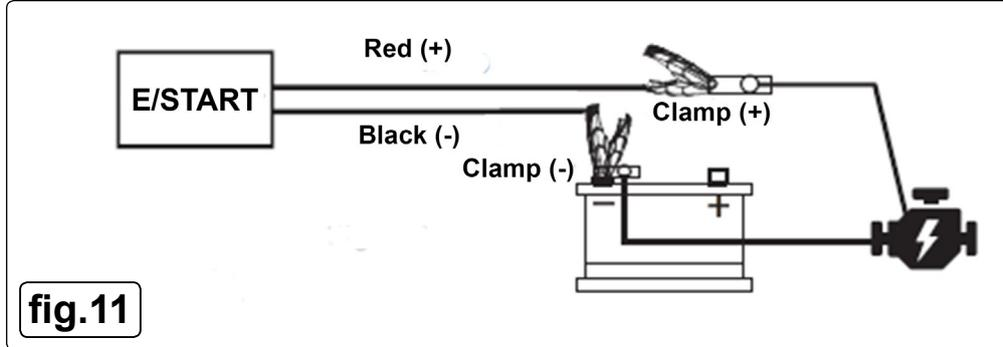

fig.11
5.8.3. Connect E/START to the vehicle with the battery lead disconnected from the battery, POSITIVE E/START lead connected to VEHICLE BATTERY POSITIVE lead, see fig.11.